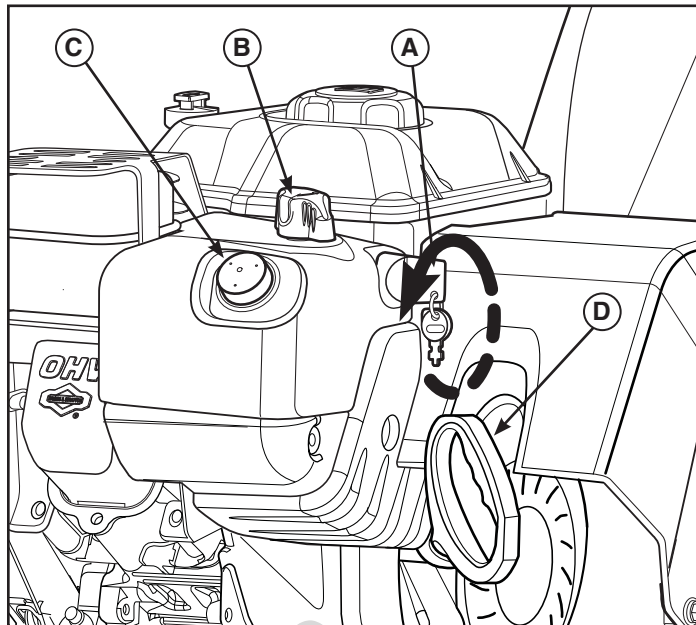

Figure 5
3. Insert the ON/OFF key (A, Figure 5) and turn to the ON position or insert the Push/Pull key, if equipped.
4. Turn the choke knob (B) fully clockwise if engine is cold.
5. Push the primer button (C) two times.
6. **Rewind Start:** Firmly hold the starter cord handle (D, Figure 5). Pull the starter cord slowly until resistance is felt, then pull rapidly.